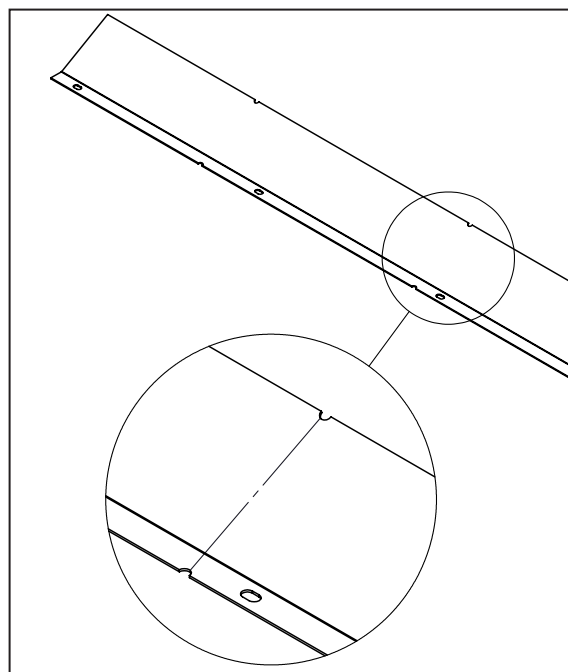
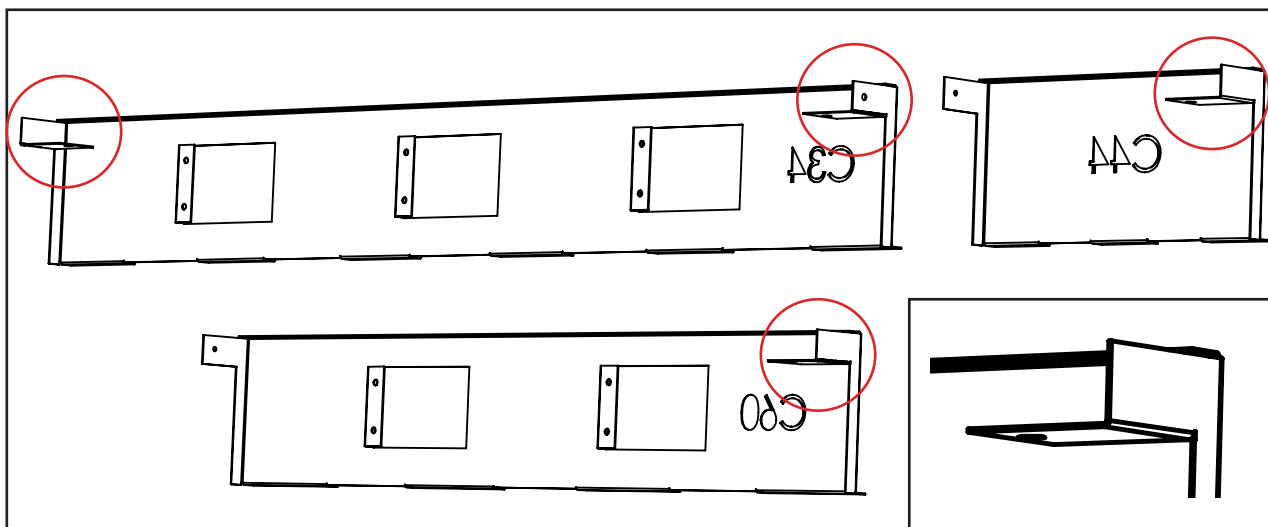

Figure 23. Trimmable Deflector trim notches
Figure 24. Rear Panel hand bent flanges
Notches on the top and bottom of the trimable deflector show where to cut it. The first notch on the far left will size it for a C44 and the second notch will size it for a C34. As shown in Figure 23.
Step 2: All the Units use the C34 panel as a base. If installing a C44, use both the C34 and C44 panels. If installing a C60, use both the C34 and C60 panels. If installing a C72, use all three panels. Once you have your required panels locate the flanges in the figure 23 below. Bend these flanges inwards 90deg to match the figure 24 below.
Step 3: Verify that all the hand bends shown above are bend inwards 90deg as shown in figure 24.